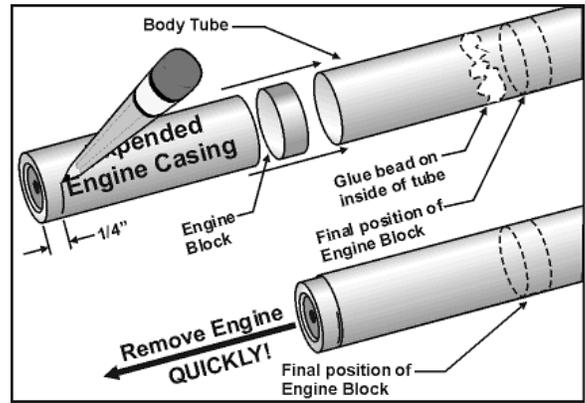

Figure 13
- Make a mark $\frac{1}{4}$ " from the end of one engine casing. Apply a bead of glue 1 – 2" inside the bottom (end with the Fin Location marks) of the Body Tube. Referring to **Figure 13**, use the engine casing to push the Engine Block into the Body Tube up to the mark made on the engine casing. **NOTE:** Remove the engine casing **QUICKLY** to prevent it from becoming glued inside the Body Tube.